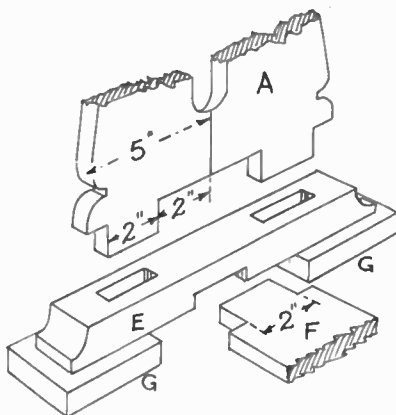

Fig. 5
The foot rails (E) are shaped at each end and will have mortises cut in them to fit the tenons exactly of the uprights. The detail Fig. 5 shows this, as well as
Now we come to the making of the full-size pattern of the shade by setting out the measurements shown at (C), Fig. 5. This, as can be seen, is taken from diagram (A) and described with compasses with lengthening bar attached. From any point on this arc, step out, again with the dividers, the six
divisions taken from (B), Fig. 5. These will finish at (A) on the arc and will, therefore, represent one quarter of the full diameter required. Now take up the dividers again and, with length set to (O), (A), proceed to slip round (B), (C) and (D), making the four equal divisions. Connect up point (D) with the centre point of the arc and you have the full shape or pattern of the shade. A marginal strip should be left as that shown shaded, for gluing up the cone when shaped and brought round edge to edge.